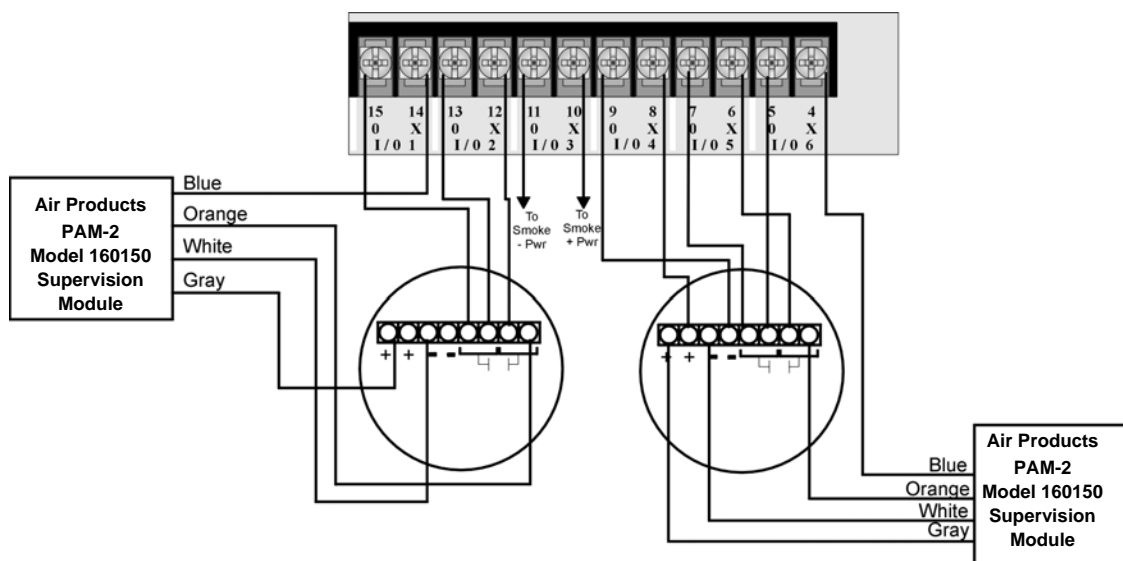

Figure 3.15 Class A 4-Wire Smoke Detector Connections
Figure 3.15 illustrates how to install 4-wire Class A detectors.
2. Smoke power is supplied to each Class A loop as shown in Figure 3.15.
**NOTE:** In programming any point that uses multiple I/O circuits are always referred to as the lowest I/O circuit number used. For example, Figure 3.15 uses I/O circuits 1, 2, 3 together and 4, 5, 6 together. In programming (1, 2, 3) would be referred to as point 1, and (4, 5, 6) would be referred to as point 4.